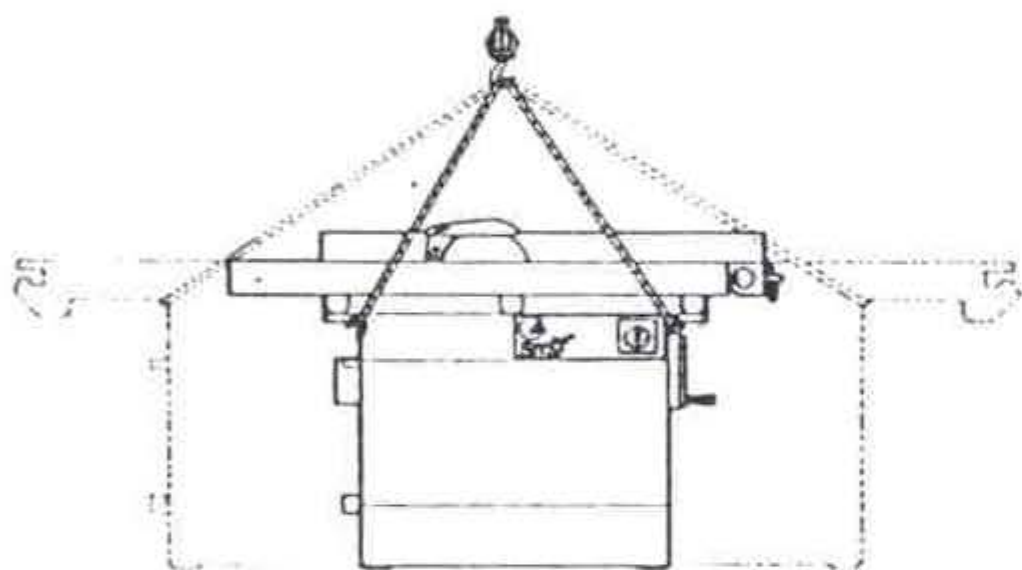

Fig. 1
- The machine is to be slung with ropes as shown in fig. 1. Protect varnished parts with rags. Lift slowly to check machine horizontality and lower down very carefully.